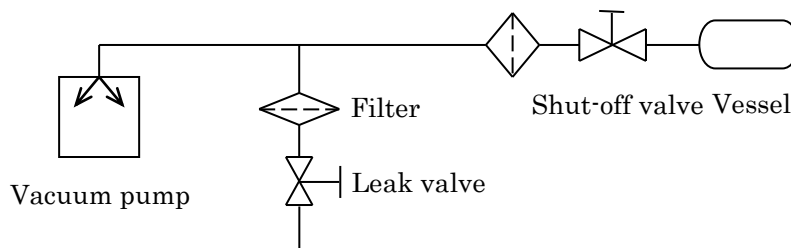

Fig.4 Example of Piping Used When Evacuating a Vessel
- 7) When evacuating a vessel, ensure that a shut-off valve is placed between the pump inlet pipe and the vessel (see Fig.4).
If it is necessary to maintain a vacuum, attach a shut-off valve or three-way valve between the pump and vessel. Refer to fig.4 for a piping example using a shut-off valve.